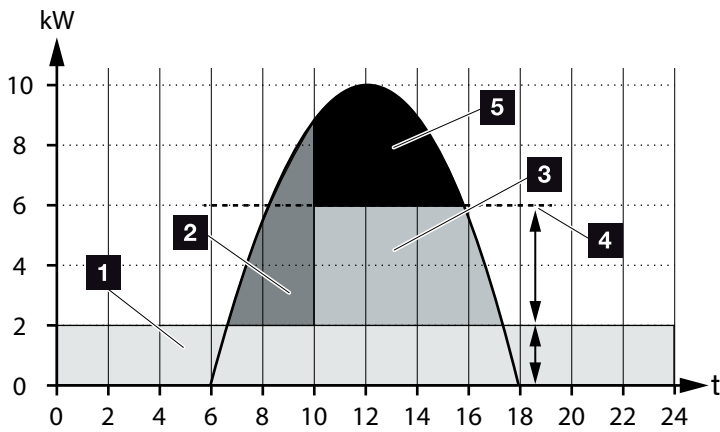

Fig. 55: Control without smart battery control
**Fig. 55, It. 4** shows how without smart battery control, especially when there is high solar irradiation, the generated PV energy remains unused e.g. in the case of limiting to approx. 50% because of the KFW ruling.